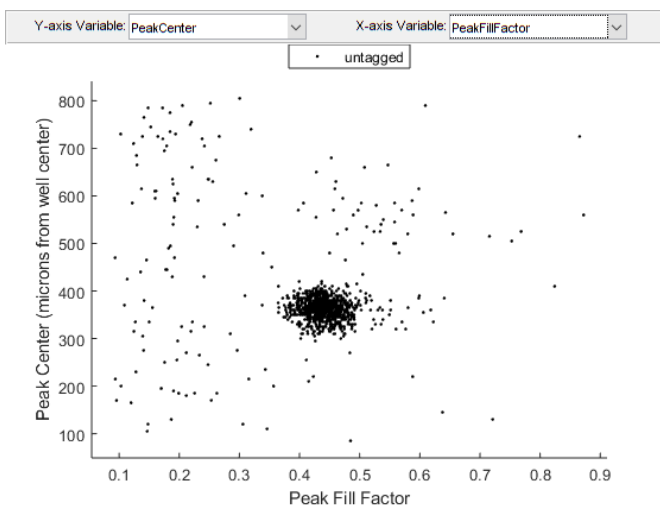

Figure 4-27: PeakFillFactor vs. PeakCenter in Peak Table.
1. In the Peak Table, plot **PeakCenter** vs. **PeakFillFactor** (Figure 4-27).